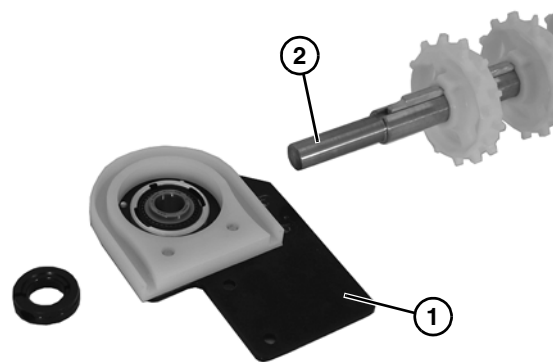

Figure 43
6. Remove end plate (Figure 43, item 1) from shaft (Figure 43, item 2).